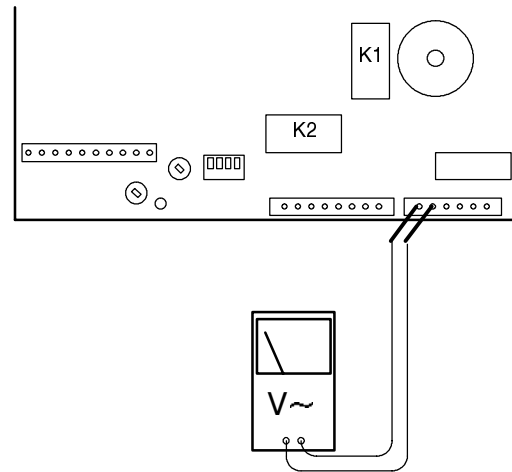

fig. 59
- 2 Connect a meter, set for alternating voltage (230V) measurement, to the points indicated in fig. 59.